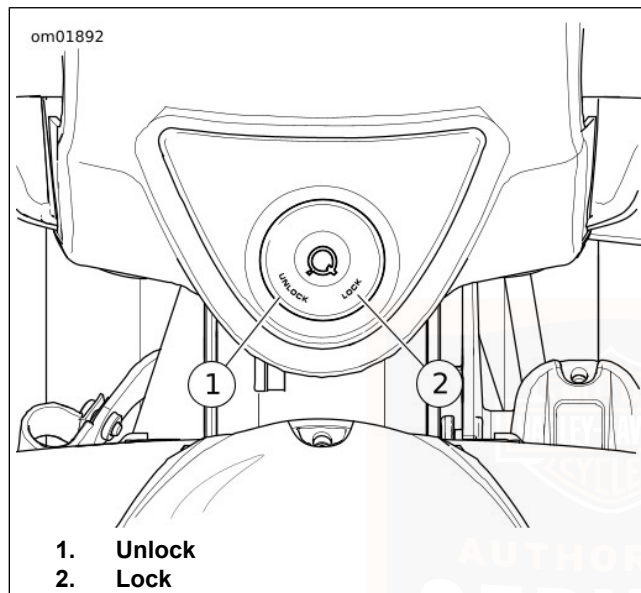

Figure 18. Fork Lock: FLRT
FLRT: See Figure 18. The fork lock is at the top of the steering head, behind the headlamp nacelle and inset in the handlebar clamp shroud.
2. See Figure 18. Insert key and turn key counterclockwise to LOCK position. Remove key.